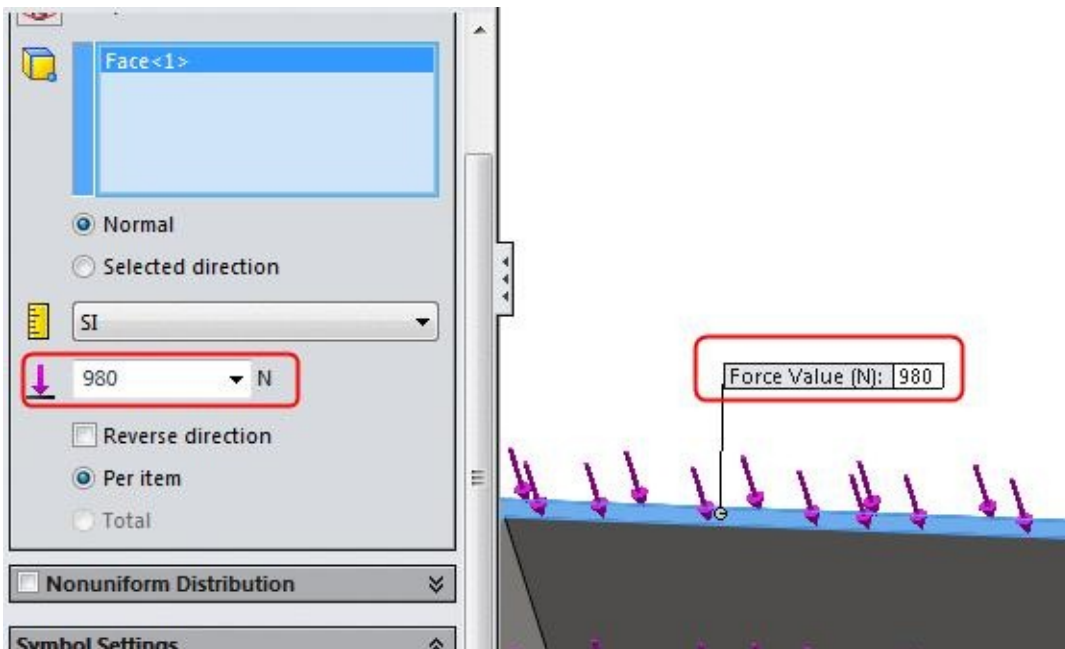

Figure-10. Value specified for load
- Click in the **Force Value** box in the **PropertyManager** or in the modeling area and enter the value as **980** which is equal to **100** Kilograms of weight. Refer to Figure-10.